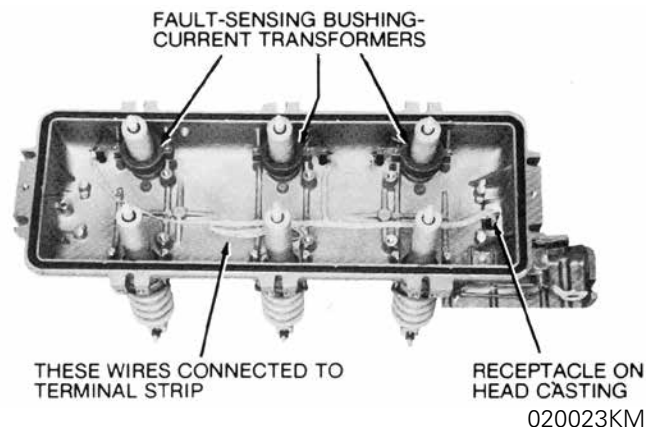

Figure 26. Head casting detached from operating mechanism
- Temporarily substitute eye-bolts for two of the hex head bolts in the bottom of the closing solenoid frame so the mechanism can be easily lifted and handled with a hoist (Figure 26).